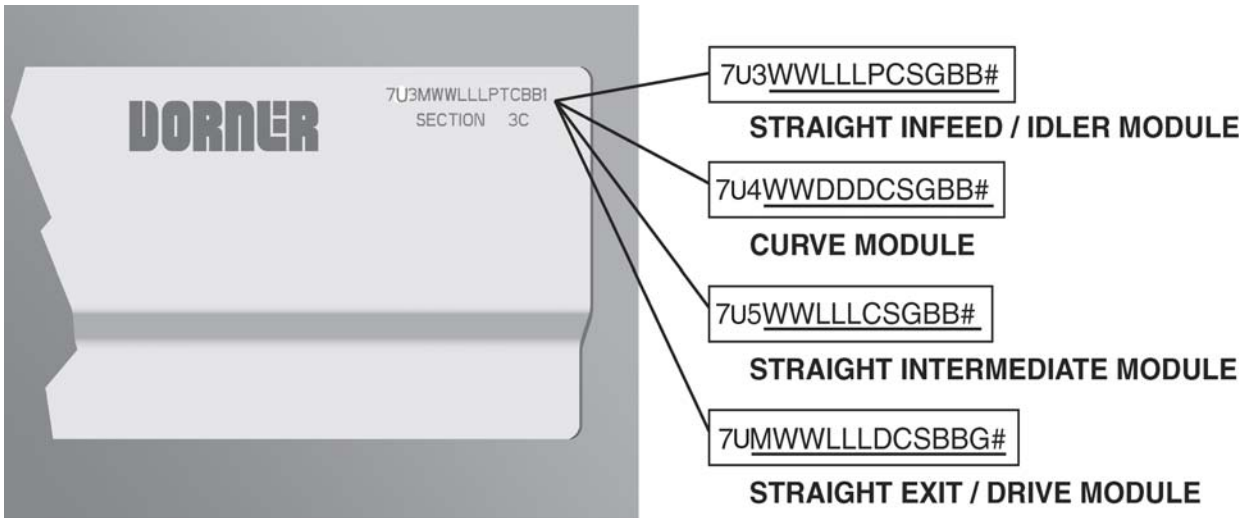

Figure 84
Refer to your serial and model number plate (Figure 84). From the model number, determine conveyor width (WW), length (LLL), pulley type (P), stand location, cleaning options (C), stand holes (S), guide profile (G), belt material (BB), degree of turn (DDD), drive/pulley type (D) and module serialized sequence (#).